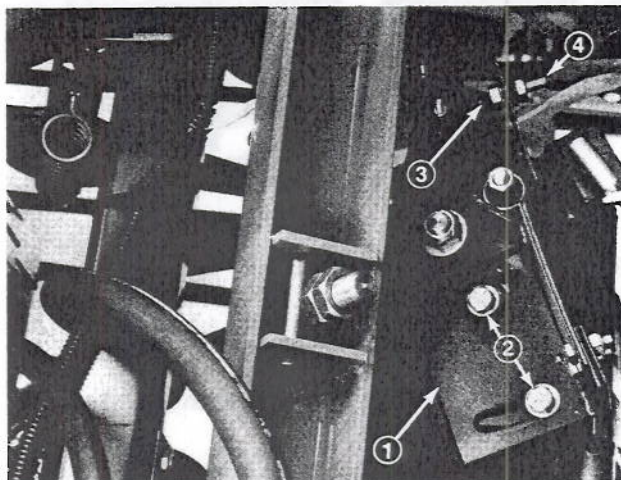

Figure 24
3. Loosen two capscrews securing traction plate so plate is free to move (Fig. 24).
4. Start engine and rotate traction plate (Fig. 24) in either direction until wheel ceases rotation.
5. Stop engine and tighten capscrews to secure traction plate (Fig. 24).